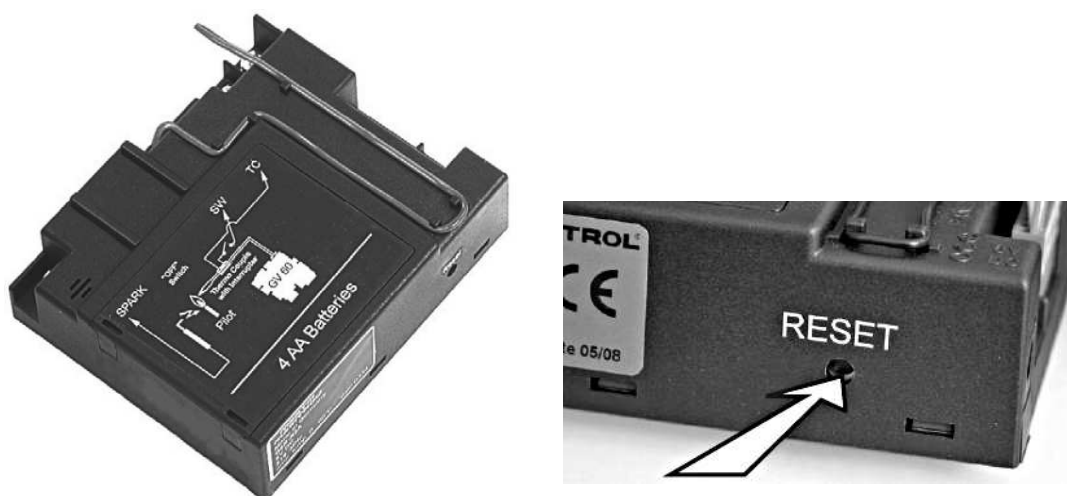

Figure 2: Receiver "RESET" button
- Press the **"RESET"** button on the receiver, and keep this pressed until 2 audio signals are heard. See figure 2.